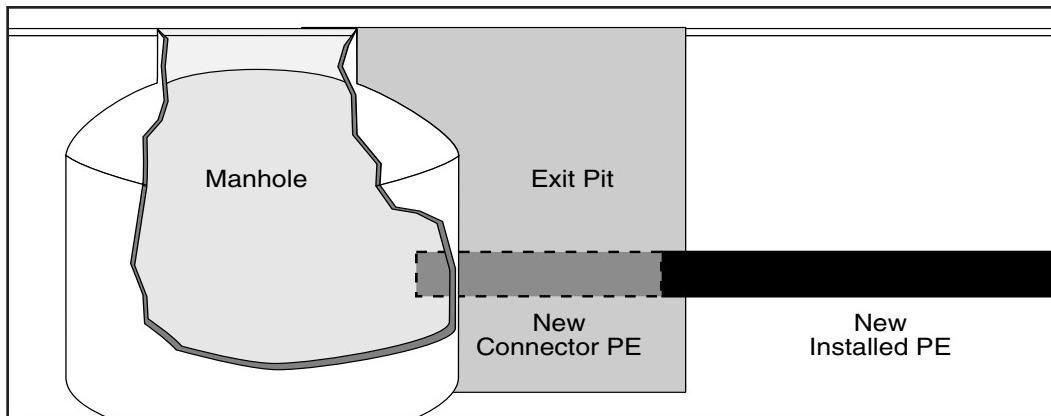

Figure 39. PE Connection to Manhole
**1. Connect PE Method.** Bridge the gap between the newly installed PE and the manhole by cutting a piece of PE, and connecting it to the installed PE by using a band-type fitting or fused butt connector (Figure 39).